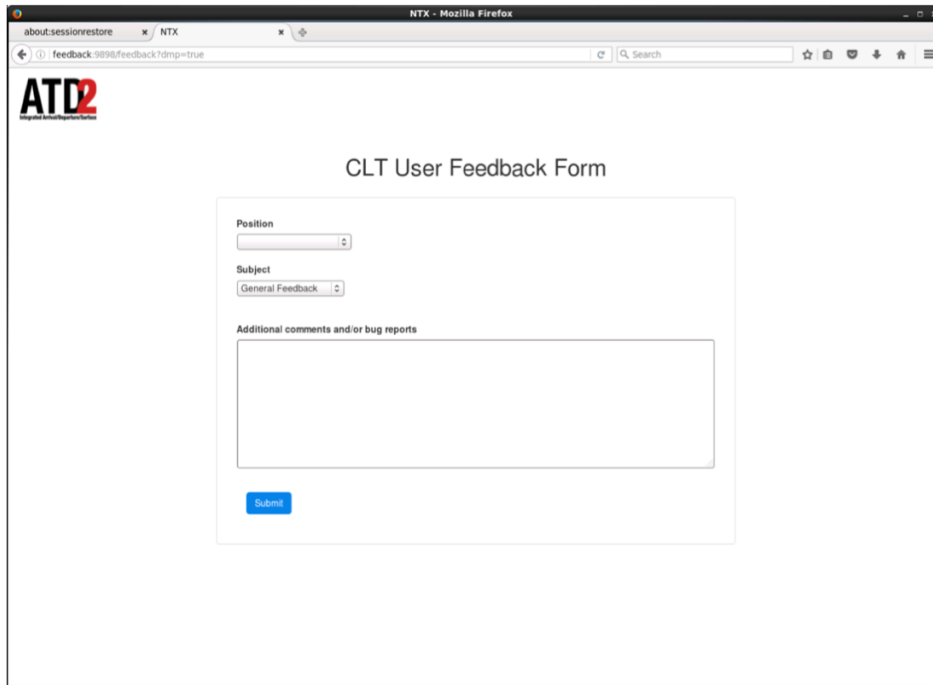

Figure 22. Feedback form page.
Selecting the ‘Feedback’ button in the upper right corner of the SMD window (see Figure 21) brings up the Feedback Form page (see Figure 22).
Step 2: The Feedback Form page will appear in the SMD window (Figure 22).